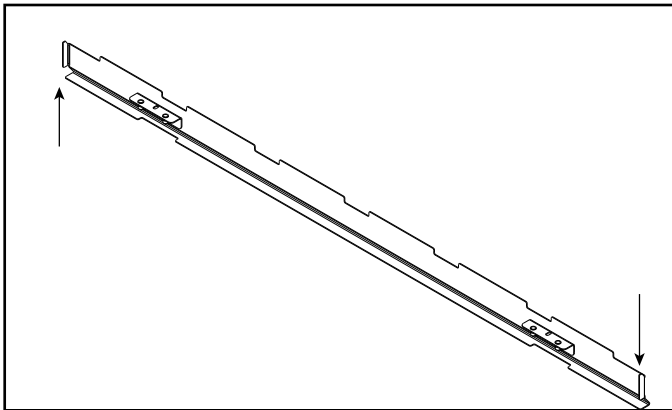

Figure 11.17 Glass Retainer Bar Assembly Locating Tabs
3. Align the glass retainer bar assembly with the appliance retaining channel. Use the locating tabs on the sides of the glass retainer bar assembly to help center left and right. See Figure 11.17.